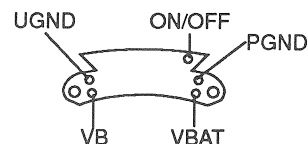

Fig. 3-34 DC/DC Convertor Wiring
- The lead wiring is shown in figure 3-34.